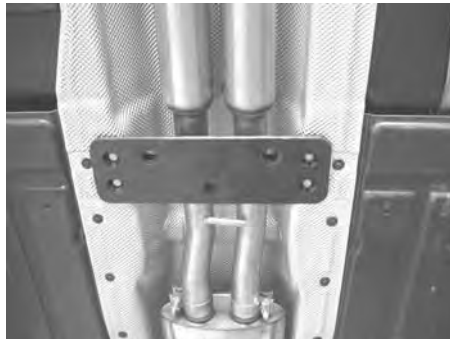

Figure 9
4. Using the original hardware, install and secure the center support bracket shown in figure 9.